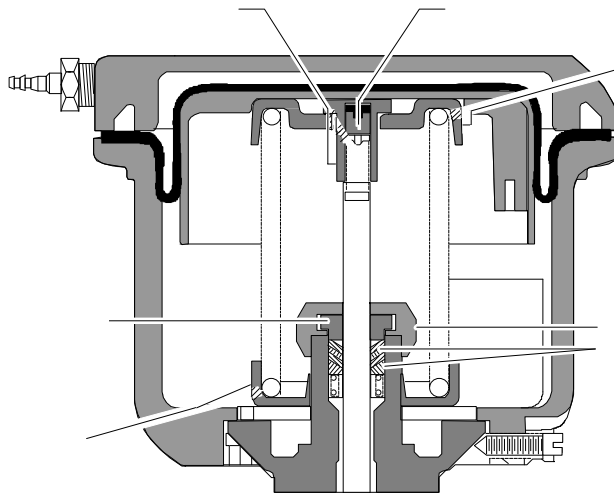

Fig. 2: Exposed V-3000 Actuator
1. Remove the V-3000 actuator, upper spring plate and spring. (See Fig. 2).